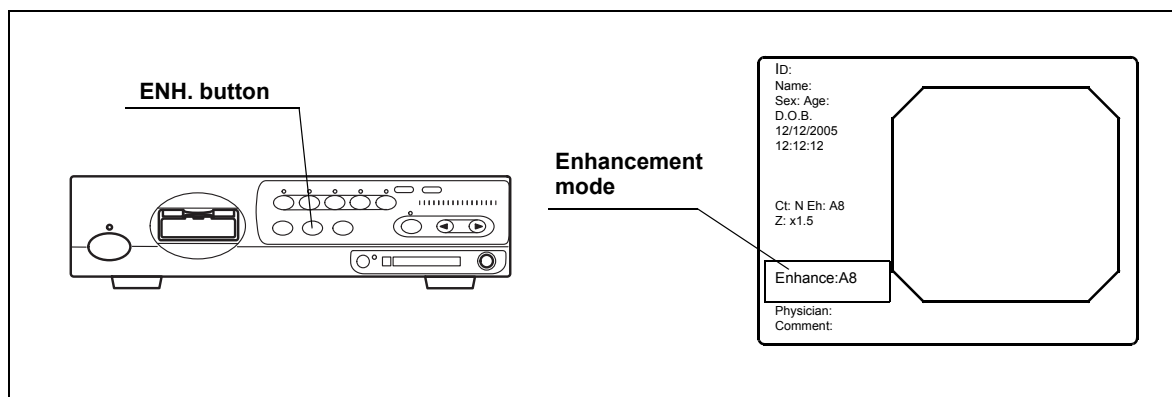

Figure 5.6
1. Press the "ENH." button to change the enhancement mode (see Figure 5.6). The indicator above the button lights up and the selected mode is displayed on the monitor for a few seconds.